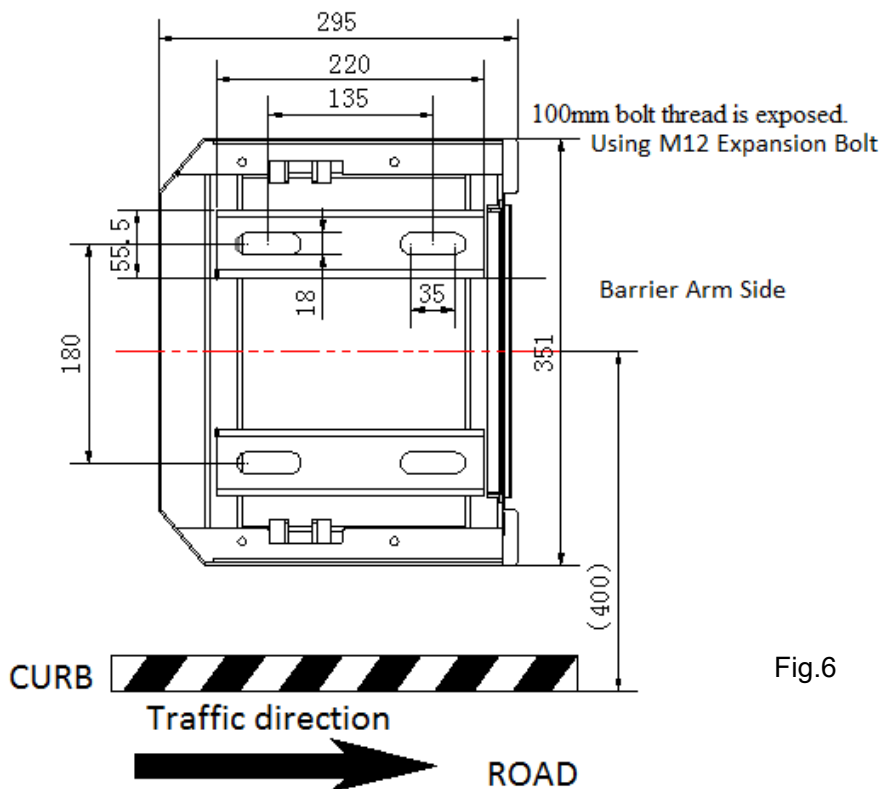

Fig.6
- Foot and expansion bolt should be installed in accordance with (Fig. 6)